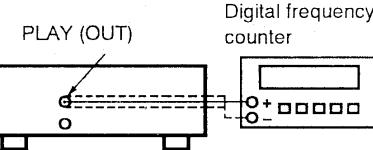

Fig. 7
- Connect the measuring instruments as shown in Fig. 7.